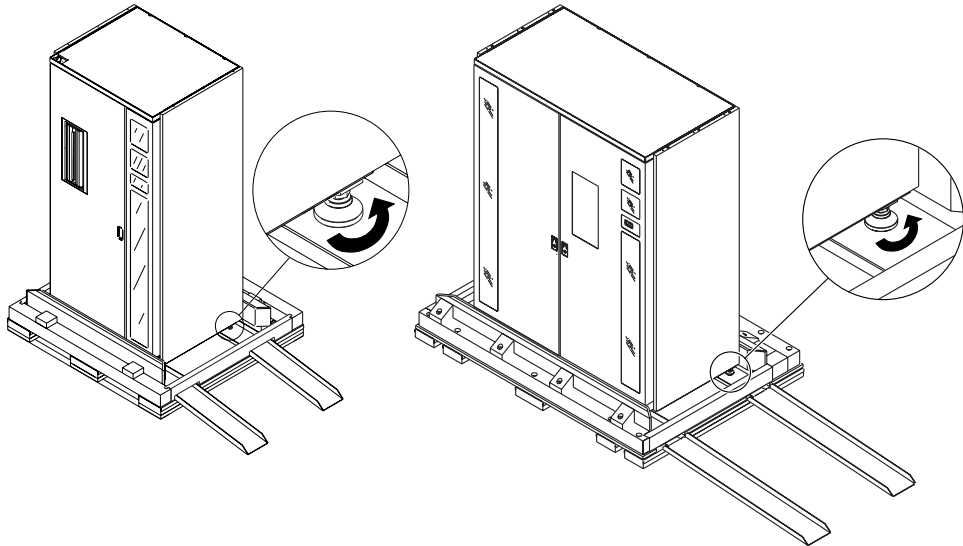

Figure 4-11. Raising the leveling feet
4. Verify that the library's four leveling feet are raised. If the library is resting on the leveling feet, turn each of them to the right (using the  $\frac{3}{4}$ -inch open-end wrench supplied in the Accessory Kit) until they are all  $\frac{1}{2}$  inch above the pallet (see Figure 4-11).